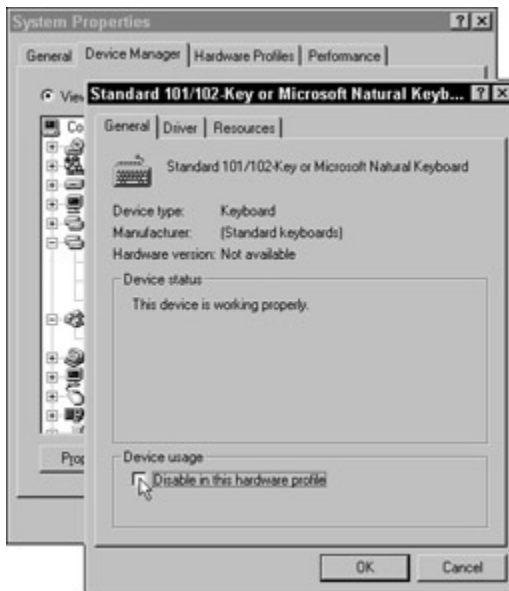

Figure 20-7: The Disable in this hardware profile box is used to disable from the Device Manager to isolate hardware problems on a Windows system.
2. On the Device Manager tab, disable all of the devices listed under the following device trees by right-clicking on each device, choosing Properties, and clicking the Disable in this hardware profile box, shown in Figure 20-7 :